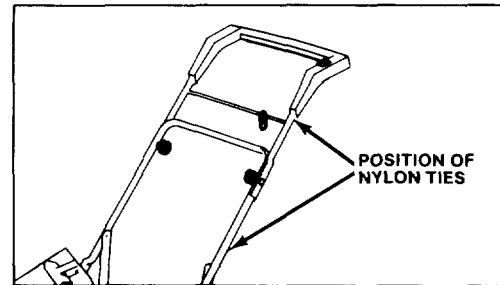

Figure 2
2. Fasten electric cord to back of handle with nylon ties (Fig. 2).